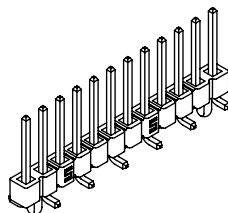

FIG. 1
-LC: LOCKING CLIP (SEE FIG. 1) (SEE NOTE 8) [USE LC-08-TM-02] (-02 THRU -36 POS: 2 PER STRIP -02 POS: 1 PER STRIP)
[DIFFERENT AS SHOWN, OTHERWISE SAME AS FIG. 1]